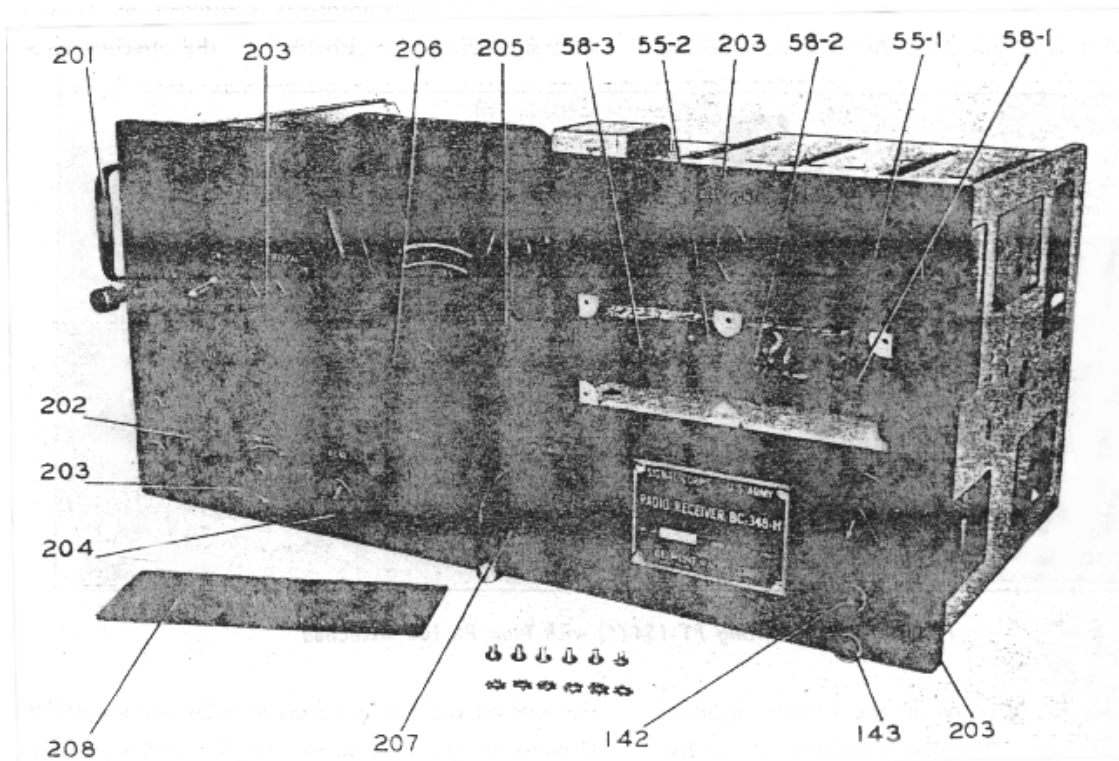

Figure 1-3 Radio Receiver BC-348-(*) or BC-224-(*) -- Front View of Chassis with
c. PANEL.--The front panel is attached to the chassis and to the end plates by screws. Two handles are mounted on the panel. A cutout, covered by a plate, is provided to give access to the wiring under the r-f tube shelf for servicing and maintenance. (See figure 1-3.) The following panel items are mounted on the front of the panel: Antenna and ground binding posts; antenna alignment control "ANT ALIGN"; dial lights rheostat control "DIAL LIGHTS"; tuning control "TUNING"; band switch control "BAND SWITCH"; dial window housing which covers the dial lights; beat frequency control "BEAT FREQ"; crystal filter control "OUT-CRYSTAL-IN"; volume control "INCREASE VOL"; AVC-OFF-MVC control; "C.W. OSC" control; and two telephone jacks "TEL."